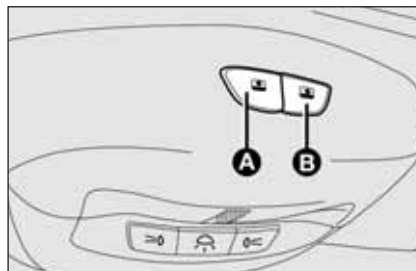

fig. 66
The “skydome” type sunroof consists of two glass panels (a fixed one and a sliding one) fitted with sun curtains with two manual control positions (open/closed). Sunroof operation is possible only with the ignition key at **MAR**. Buttons **A** and **B**-**fig. 66**, located on the central ceiling light, control sunroof opening and closing.
- ☐ press button **B**-**fig. 66** at close position;